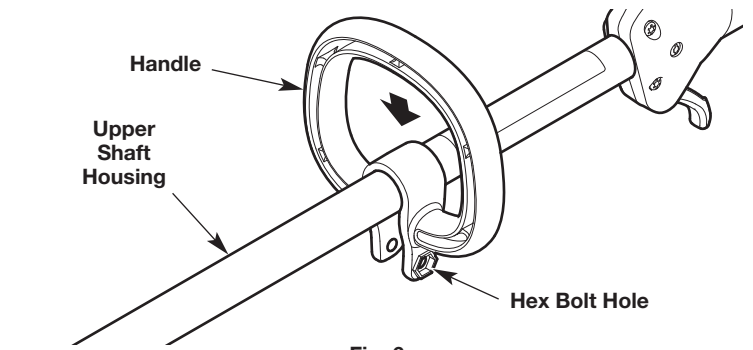

Fig. 6
1. Push the handle down onto the upper shaft housing (Fig. 6). Make sure the hex bolt hole faces to the left (Fig. 6).